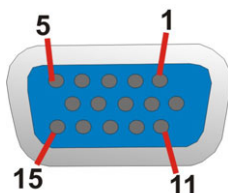

Figure 3-26: VGA Connector
- CN Pinouts:** See **Figure 3-26** and **Table 3-30**